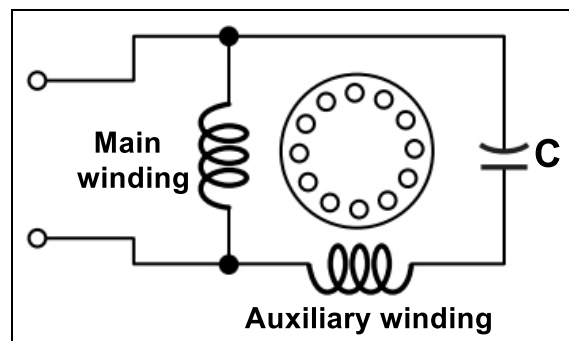

Fig. 1.1-17 Permanent-Split Capacitor
- **Permanent-split capacitor-start motor** (Fig. 1.1-17)